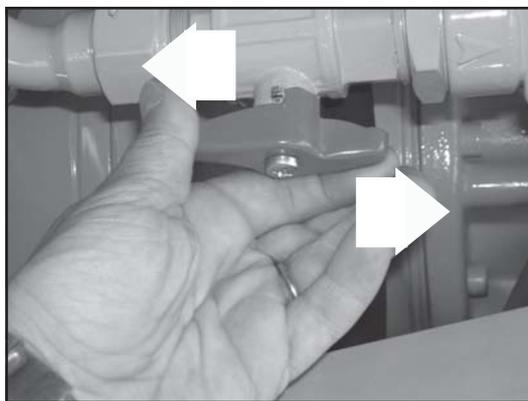

fig.5
step 3 - close the tap (**fig. 5**) to reset the circuit, remove the tap lever (**fig. 6**) and put it back in the tool box with the screw (**fig. 7**).